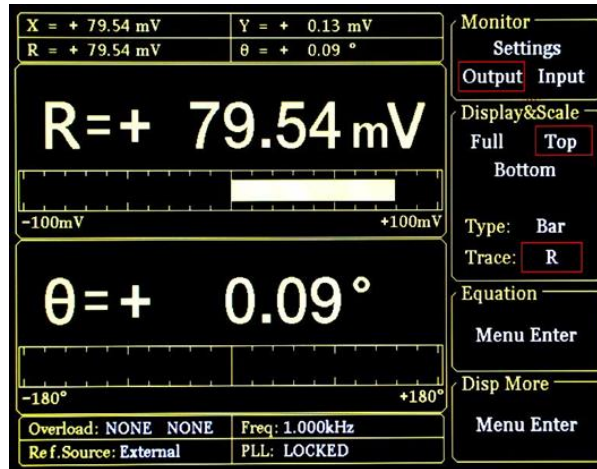

Fig.95 Monitoring Bar Display
press [DISPLAY] to enter the submenu. Then, press [soft key 1] to set the <Monitor> from <Setting> to <Output>. Now the monitor field will display the value of <R>, <X>, <Y> and < θ >, as is shown in Fig.95.